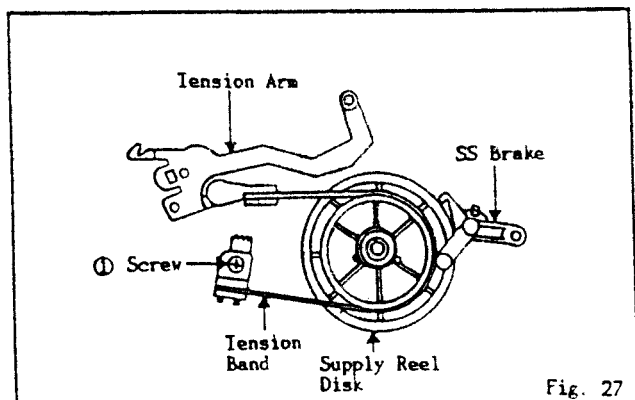

Fig. 27
1. Remove the screw ① held to the tension band.
2. Release the SS brake from the tension band to remove it from the Supply Reel Disk. (Fig. 27)